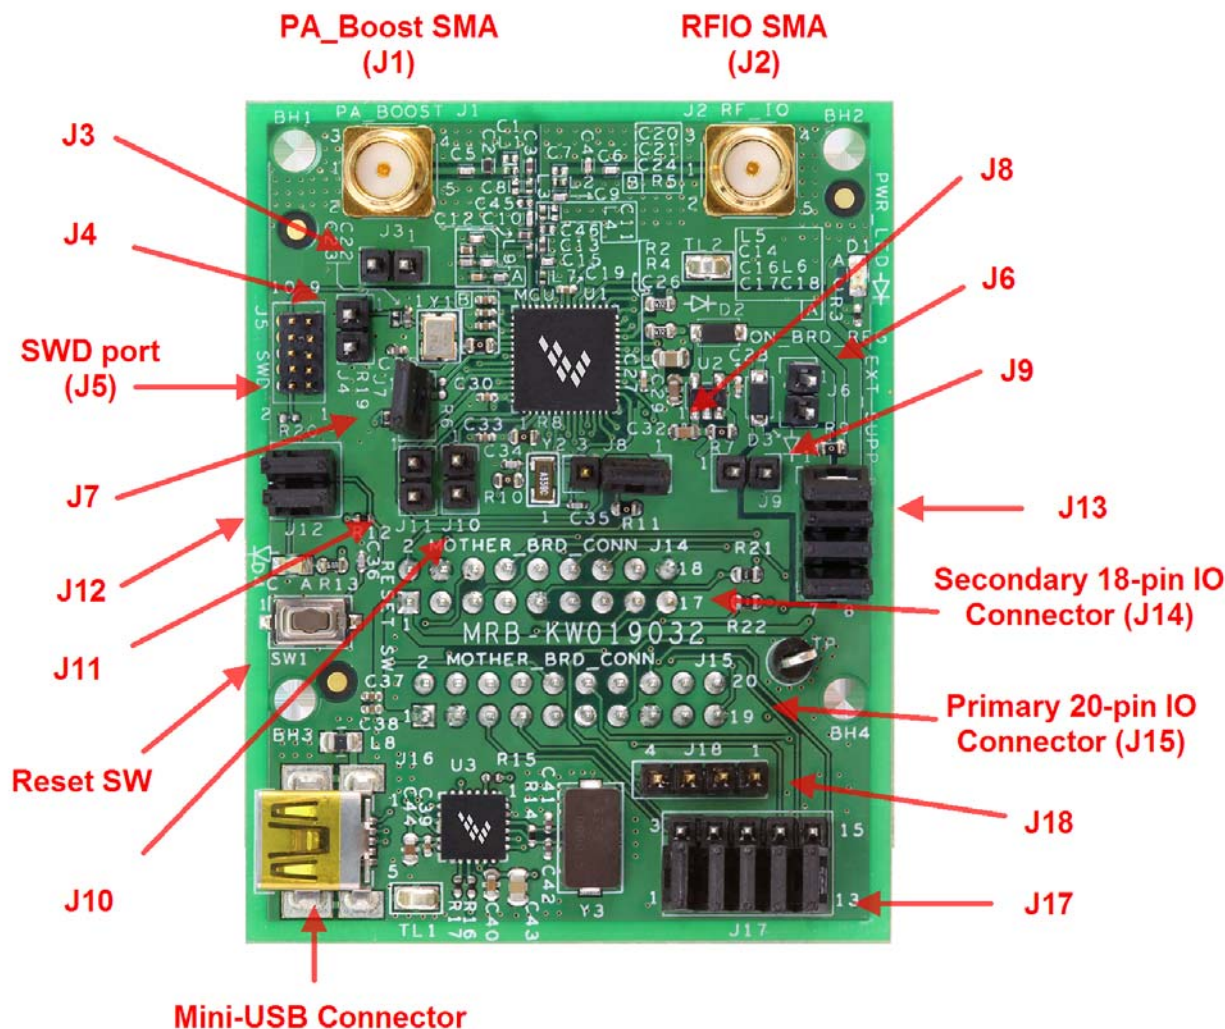
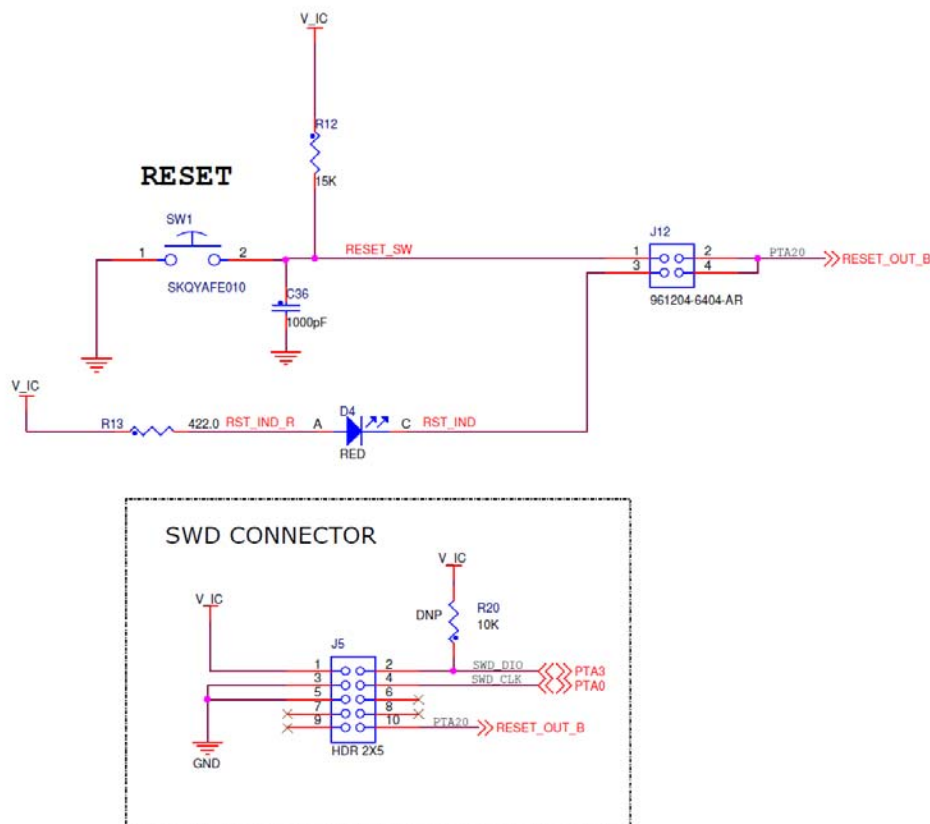

Figure 3-1. KW01-MRB
Figure 3-7. KW01-MRB Reset Switch and SWD Port
Figure 3-1 shows the KW01-MRB connector and header locations.
- Figure 3-1 for location of connectors and features
The reset circuit and SWD port connector are shown in Figure 3-7. See Figure 3-1 for switch and header locations.